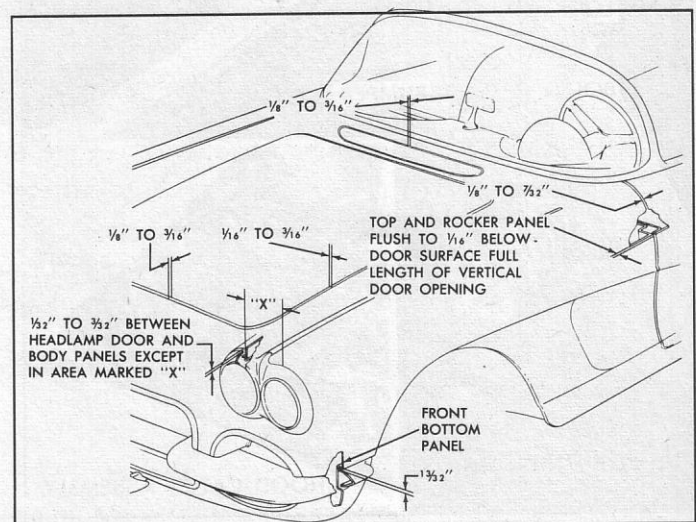

Fig. 8—Front End Clearances
The door and headlamp adjustment is covered under Body, Section 1, in this manual. Hood and Bumper adjustments are covered in this section. See Figure 8 for front end clearances.
3. Adjust hood clearance in accordance with Figure 8; also see Hood Adjustment in this section.